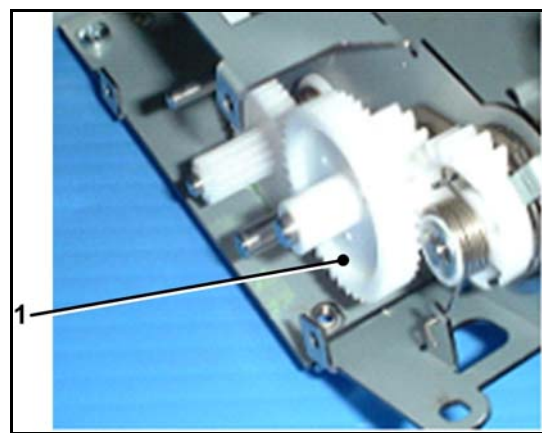

Figure 12
14. Pull Gear D off of its spindle to remove it (see Figure 12). Discard Gear D.